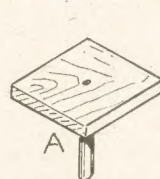

Fig. 1—The mortar board and picker
Fig. 1, being a 10 in. square of board, with a short piece of broomstick nailed to it underneath for a handle; a piece of iron $\frac{1}{4}$ in. wide, with one end bent at right angles and sharpened, as at (B) for scraping the old pointing away between the bricks, and a strip of wood, $1\frac{1}{2}$ ins. wide and $\frac{1}{4}$ in. thick, for a straight edge (not illustrated).